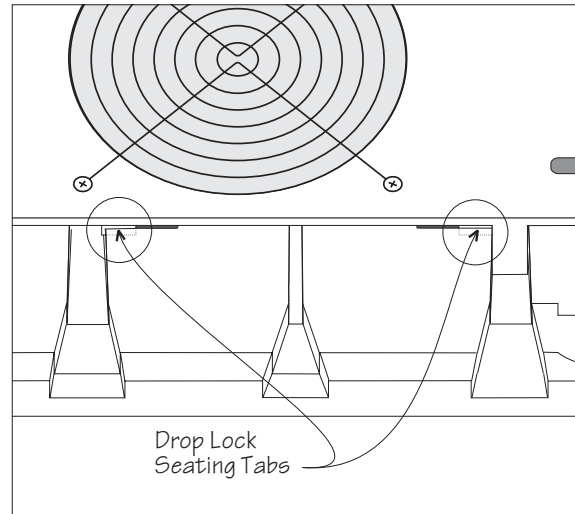

Fig 5-7 Seating Tabs When Module is Properly Installed.
5. To engage the internal connector, slide the power module firmly into the bay. The "drop lock" tabs will fall into place. See figure 5-7.